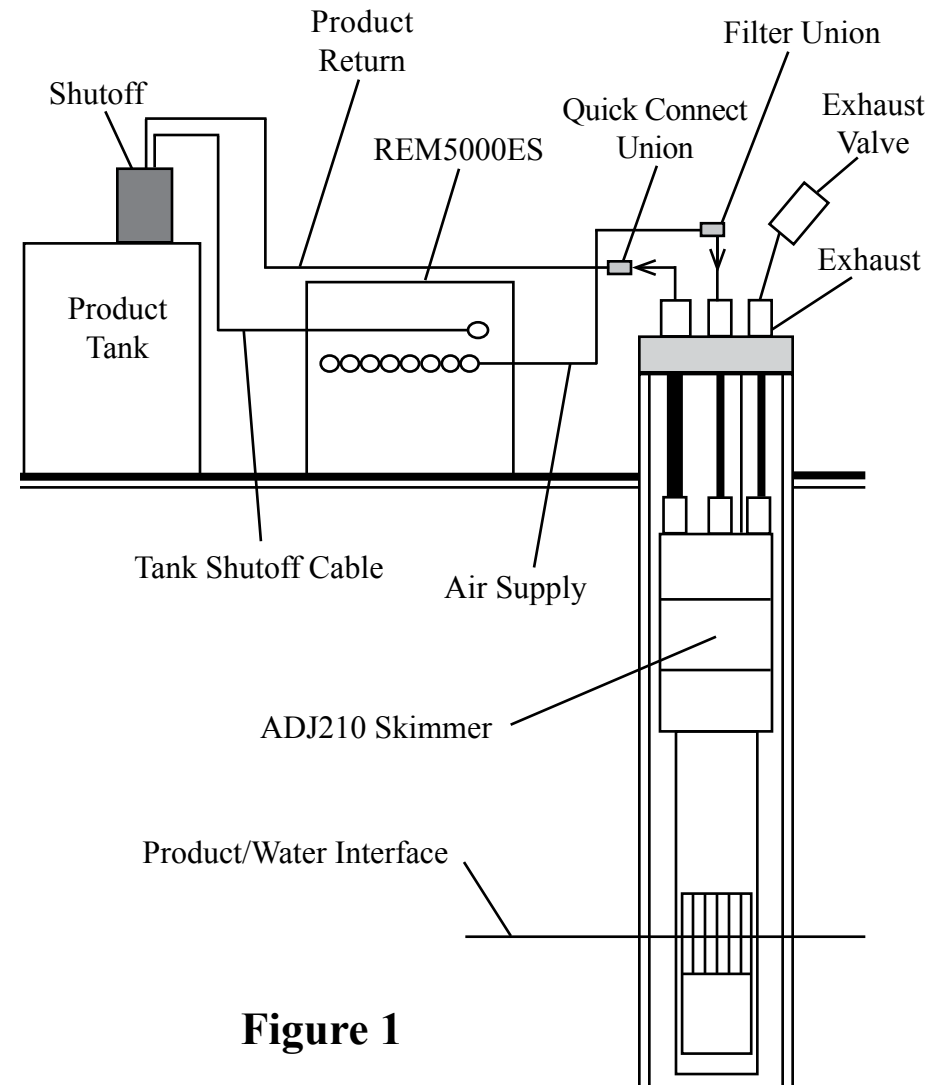
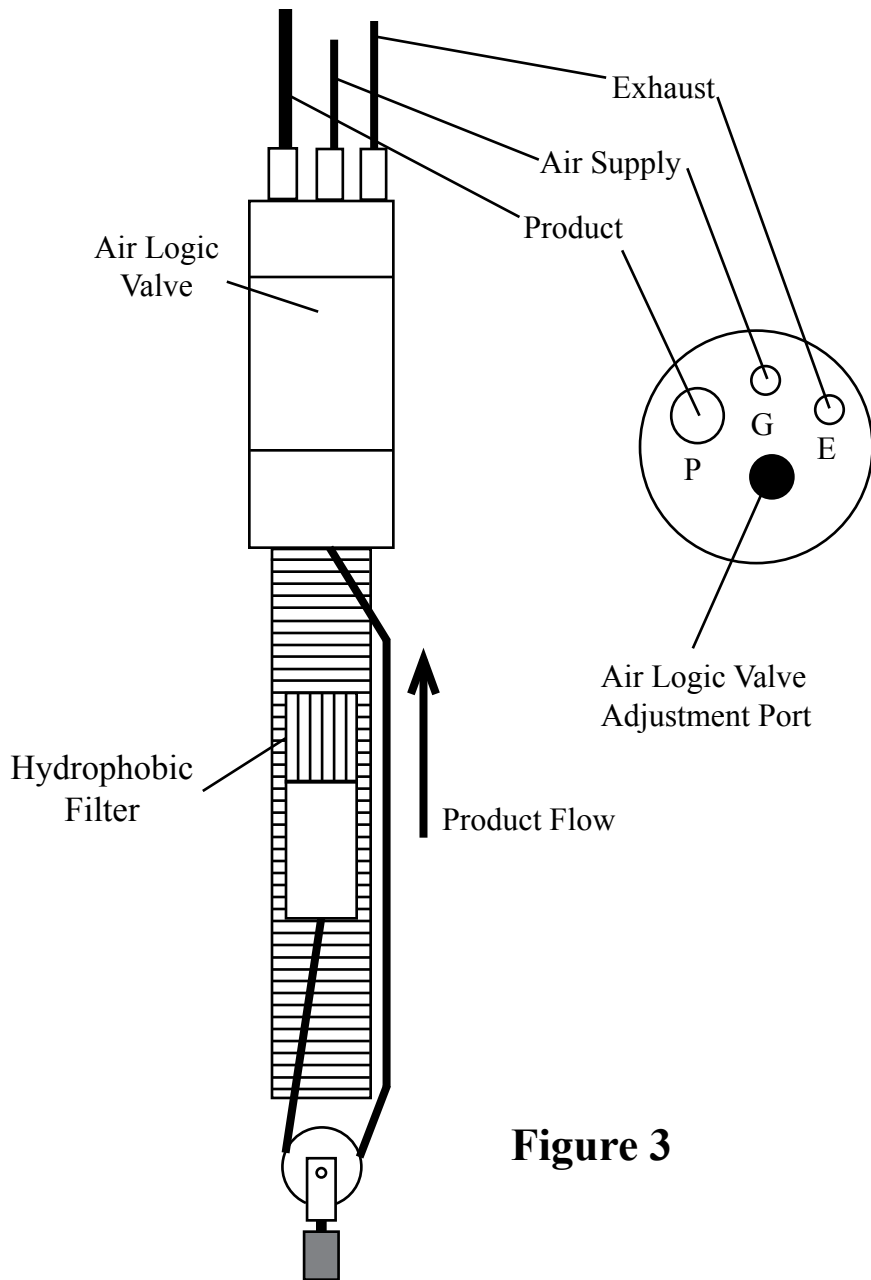

Figure 1
Figure 3
The system (Figure 1) relates to floating hydrocarbon recovery in wells two inches in diameter and larger. This system includes: an intrinsically safe ADJ210 pneumatic Smart Skimmer (Figure 3) which removes only the product to a sheen down to 200 feet deep; and a solar powered Control Station Model REM5000ES which operates up to 8 skimmers intermittently, records run time, and has a high level tank shutoff assembly.
STEP 2. Install holding tank shutoff assembly into holding tank (a 2” standard pipe inlet will be required in the holding tank). The level of product in the holding tank can be set by raising or lowering the liquid level float switch rod. Plug the high level shutoff switch cable connector into the left end of the controller (Figure 1).
STEP 6. Position the skimmer and well cap on the ground near the well. Cut a length of 1/4" OD air supply tubing to cover the distance from the top of the well down to water/product interface, plus 5 feet. **NOTE:** If the skimmer is over 70 feet deep, use 3/8" OD air supply tubing in stead of 1/4" OD tubing. Slide enough tubing through the well cap and attach the end of the tubing to the top of the skimmer tube fitting labeled "G" (Figure 3). If the product thickness is greater than 1 foot, position the center of the skimmer screen 1 foot below top of product. If the product thickness is less than 1 foot, position the center of the skimmer screen at the water/product interface.
STEP 7. Cut a length of 5/16" OD product tubing same length as the air supply line. Install 5/16" OD product tubing through the well cap tube fitting labeled "P" (Figure 3). Slide enough tubing through the well cap and attach the end of the tubing to the top of the skimmer tube fitting labeled "P". **CAUTION:** Do not kink the tubing.